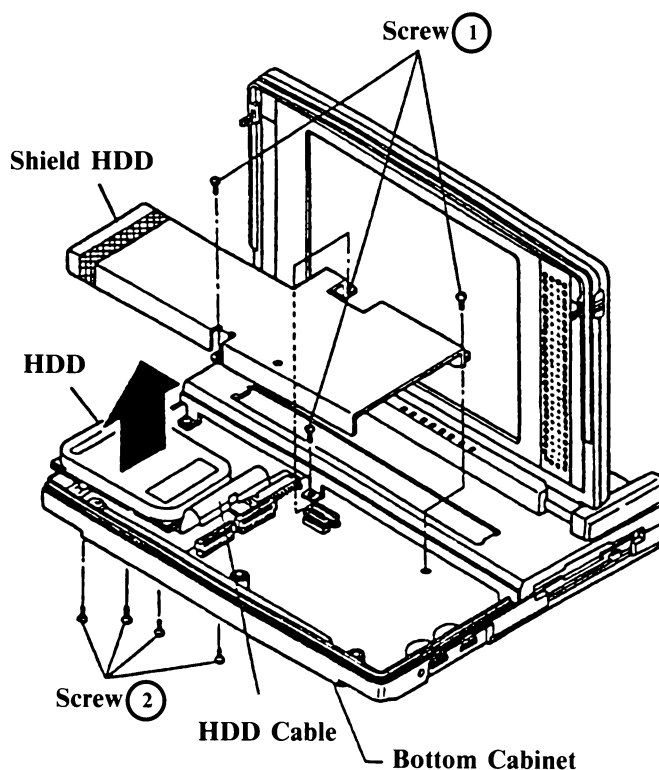

*Figure 3.3*
Remove the three screws (1) which hold Shield HDD in place. (Figure 3.3)